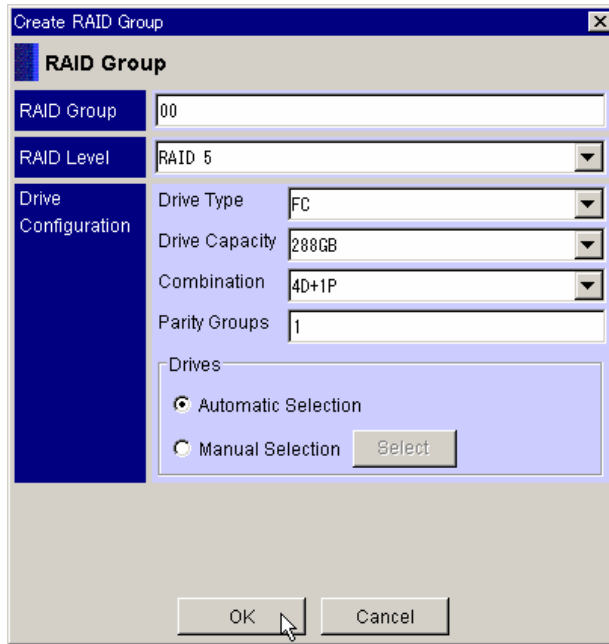

Figure 6.3 Create RAID Group Window (automatic selection)
3. Open the **Create RAID Group** window (see Figure 6.3) by one of the following methods:
5. To create a RAID group automatically, click the **Automatic Selection** radio button (see Figure 6.3), and then click **OK**.